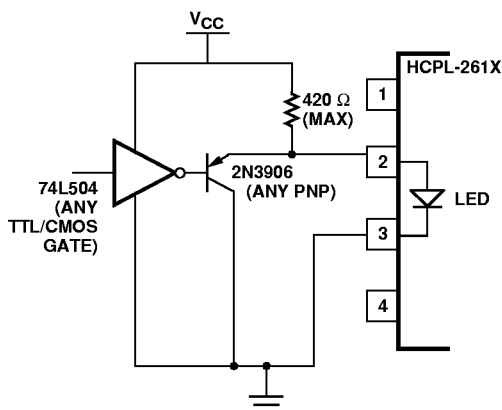

Figure 22. TTL Interface Circuit for the HCPL-261A/-261N Families.
1. Use of drive circuits where current is shunted from the LED in the LED “off” state (as shown in Figures 22 and 23). This is beneficial for good CMR_H .
Using any one of the drive circuits in Figures 22-24 with $I_F = 10 \text{ mA}$ will result in a typical CMR of $8 \text{ kV}/\mu\text{s}$ for the HCPL-261N family, as long as the PC board layout practices are followed. Figure 22 shows a